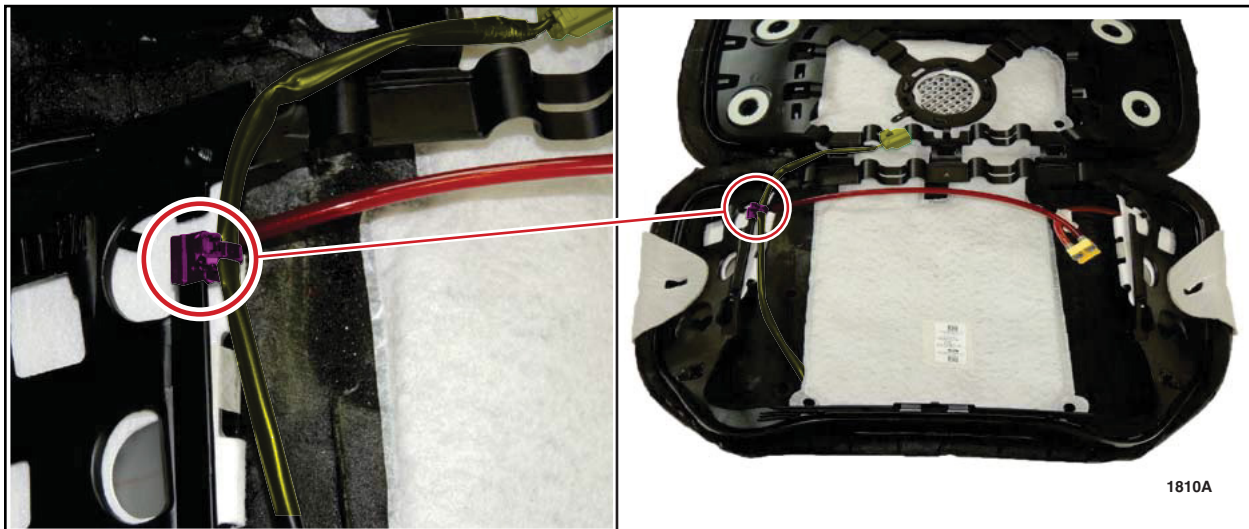

FIGURE 1
2. Release the front seat backrest heater mat wiring retainer from the backrest assembly. See Figure 1.